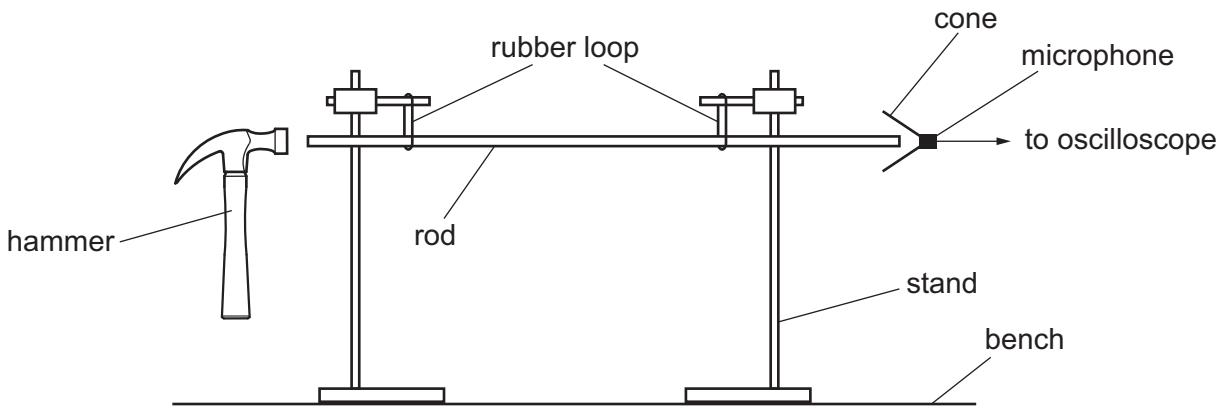

Fig. 2.1 (not to scale)
- 2 A student investigates the resonant frequency of a metal rod. The metal rod of length  $L$  is suspended from two rubber loops. A sensitive microphone with a cone is positioned at one end of the rod. The microphone is attached to an oscilloscope, as shown in Fig. 2.1.